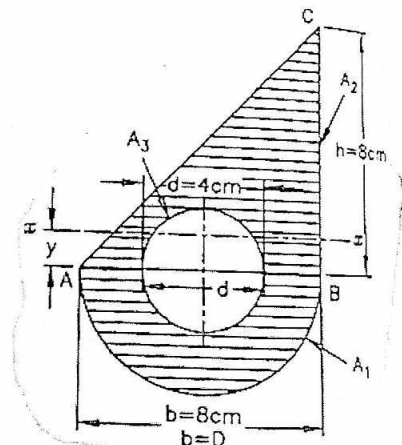

Fig. 3
- Find the centroid of the shaded segment shown in Fig. 3.